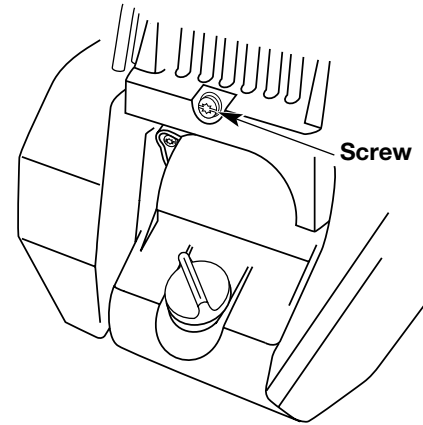

Fig. 40
3. Remove the screw behind the engine cover (Fig. 40).